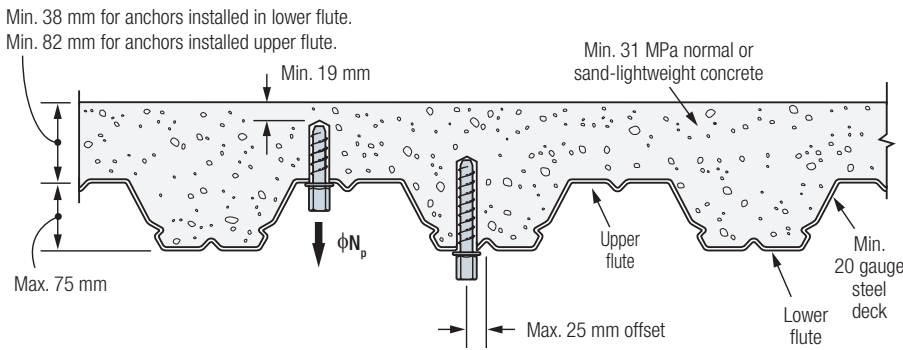

Figure 2. Installation in Concrete Over Metal Deck
- For anchors installed in the soffit of sand-lightweight or normal-weight concrete over metal deck floor and roof assemblies, as shown in Figure 2, calculation of the concrete breakout strength may be omitted.